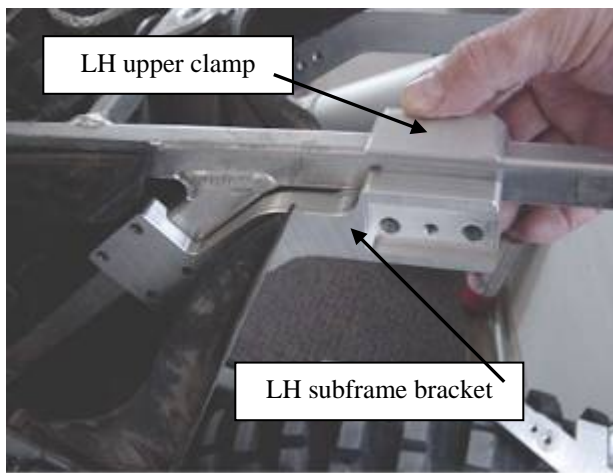

Figure 3: LH sub frame bracket and Upper Clamp
5. Check the slot in the plastic for proper size by placing the Left Hand subframe bracket down into the slot and onto the lower subframe tube. Position the subframe bracket into the correct position by installing the Left Hand upper subframe clamp and inserting one 6x20mm socket head bolt into the center hole and snug it up, but do not use any thread-locking agent. **Figure 3** If the slot is not large enough to allow proper placement, trim more plastic until proper fit is achieved.